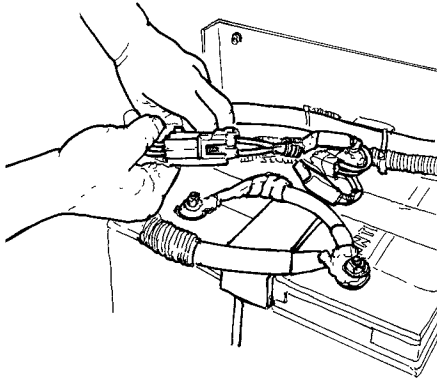

Figure 2 Disconnect E.C.M. Ground
4. Disconnect Electronic Control Module (E.C.M.) ground connector (Figure 2).